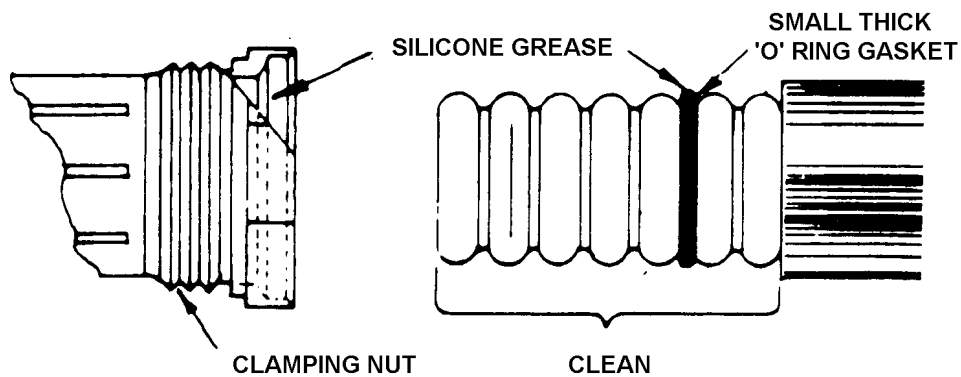

Figure 1.22 - Installing the Gasket
- 8.3 Clean the outer conductor with solvent and then add the small thick O-ring gasket to the second fully-exposed corrugation groove from the jacket (see Figure 1.22). Apply a thin coating of silicone grease to the outer surface of the gasket and the gasket lead chamfer in the clamping nut, using the finger tip.